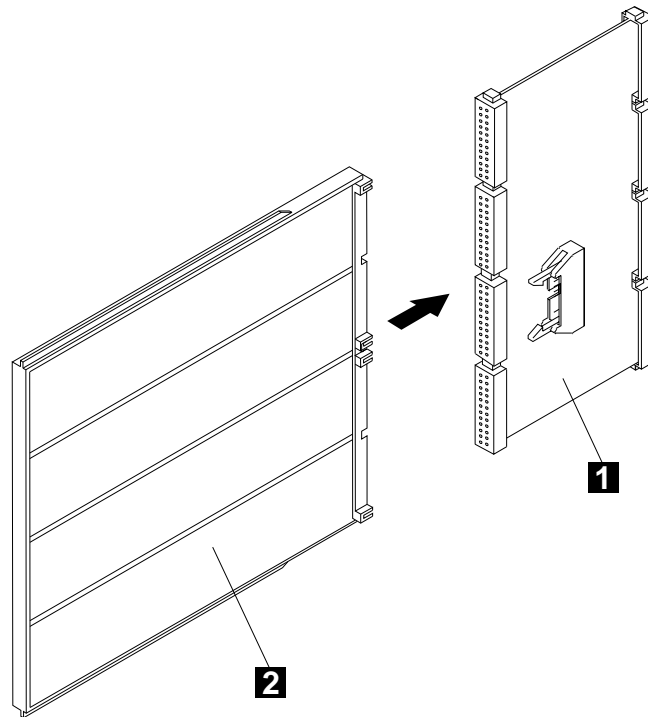

Figure 4-16. Installing a DICO Card Using a Dummy Card
- Step 7. ____ Then, using a dummy card **2** PN 2733278 push and put the DICO cards **1** in place (see Figure 4-16).